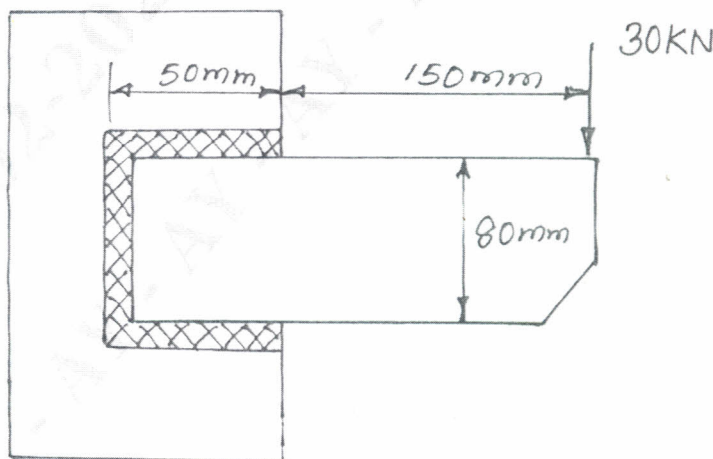

Fig. Q7 (b)
- b. Determine the size of weld required for an eccentricity loaded weld as shown in Fig.Q7 (b). The allowable stress in the weld is 75 MPa.